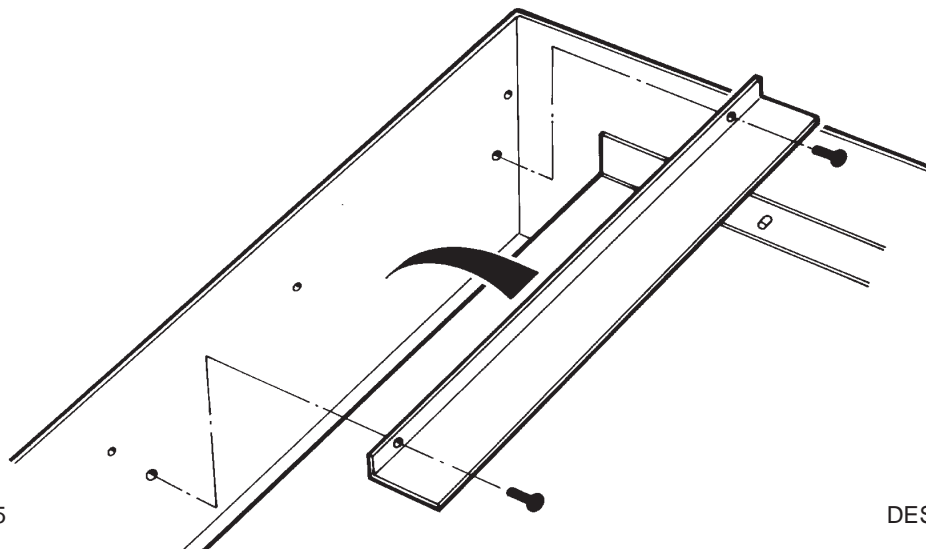

Fig. 5
5. Place blanking plate AG2M210711 (supplied with hob) on top of the oven so that the return is to the left and facing upwards. (Fig. 5).
Secure the plate with the No.8 self tapping screws provided. (See Fig. 5).